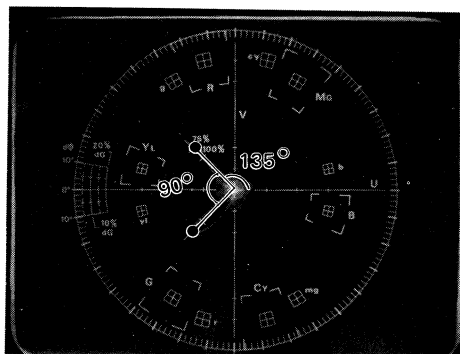

Fig. 4-2-54
- Make sure that the burst vector becomes 135° on the vectorscope. (Fig.4-2-54)